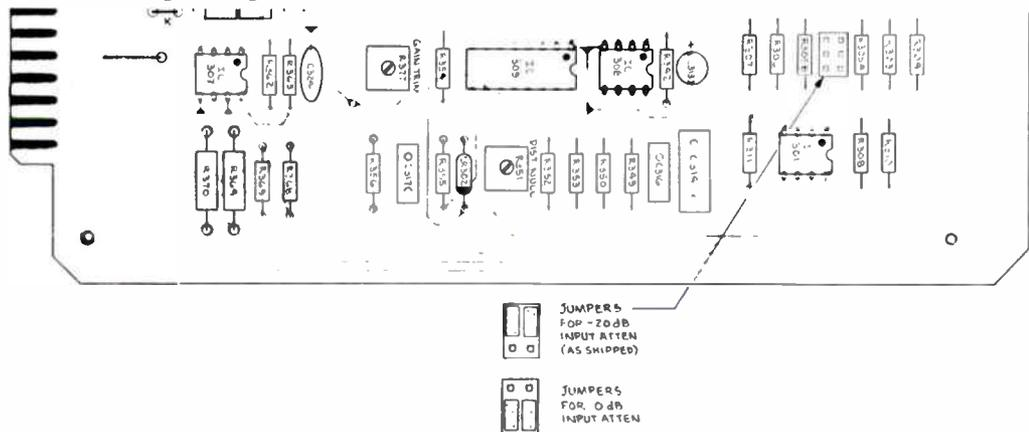

Fig. 3-3: CARDS #3 AND #4 INPUT ATTENUATOR JUMPERS
2) **Input Attenuator Pads:** OPTIMOD-TV is shipped with 20dB pads ahead of the input buffer amplifiers. These are located on Card #3 (left channel) and Card #4 (right channel), and are suited for nominal input levels from -10 to +10dBm. If lower input levels (from -30 to -10dBm) are present, the pads must be defeated. To do this, remove Cards #3 and #4. Reposition the jumper straps according to Fig. 3-3.
(NOTE: Jumper Cards #3TX and #4TX are shipped with 20dB pads ahead of the input amplifiers. If the readings in the L COMPR OUT position of the Main Chassis meter are too low with the INPUT ATTEN fully CW and the input pads are strapped for 20dB attenuation, restrap them for 0dB attenuation. This is done by moving the jumpers on Cards #3TX and #4TX according to Fig. 3-3. The cards and subpanel are then replaced.